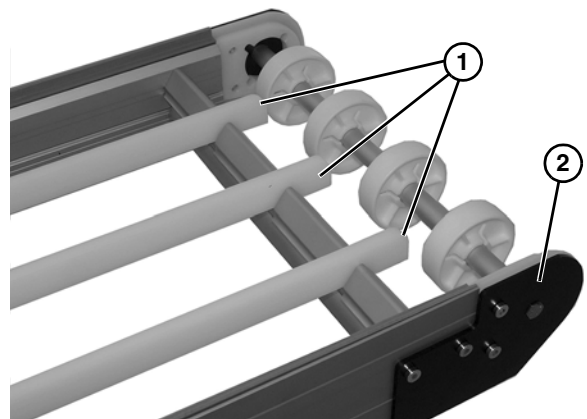

**Figure 29**
2. If necessary, rotate upward and remove bracket (**Figure 29, item 1**), from frame channel (**Figure 29, item 2**).